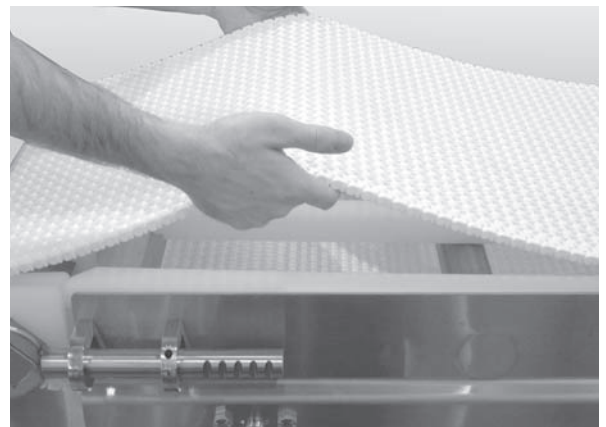

Figure 52
3. Lift up on the belt (**Figure 52**).